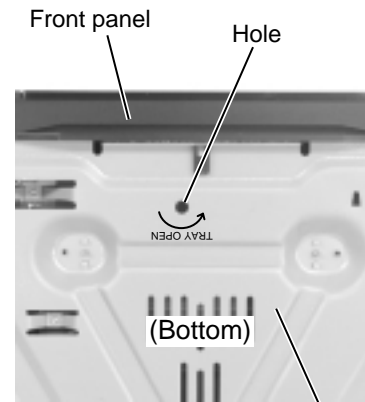

Fig.3
■ Removing the fitting (See Fig.3 to 6)
■ Removing the loading motor / loading motor board (See Fig.3 and 4)